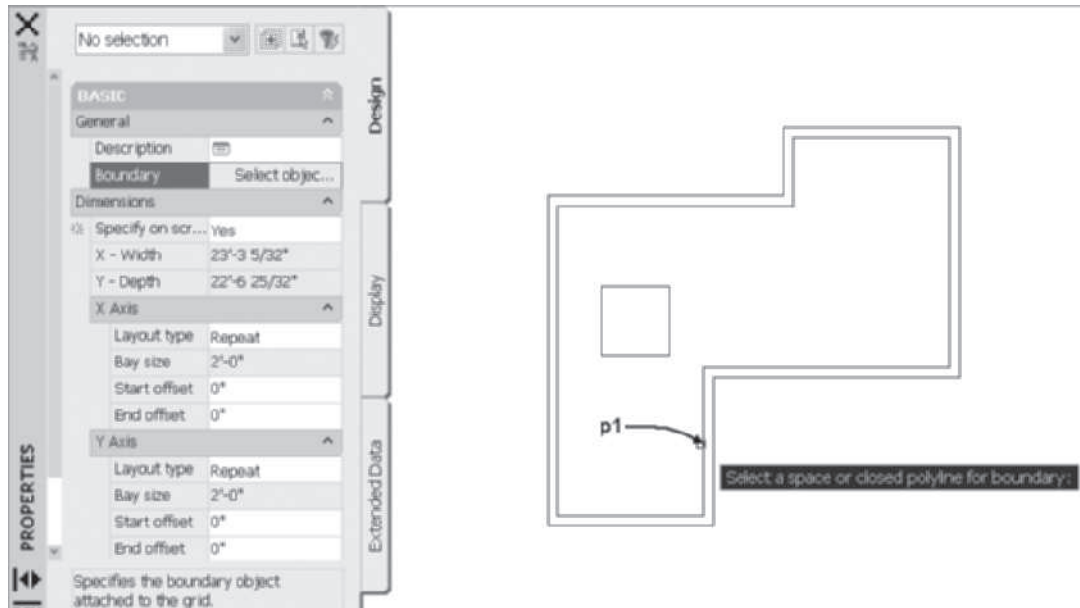

FIGURE 13.57 Selecting the AEC Space boundary for the ceiling grid
6. Edit the **Properties** palette as follows: Specify on screen = **No**; X Axis: Layout type = **Repeat**, Bay size = **2'-0" [600]**, Start offset = **0**, End offset = **0**; Y Axis: Layout type = **Repeat**, Bay size = **2'-0" [600]**, Start offset = **0**, End offset = **0**. To set the remainder of the ceiling grid dimensions, select Specify on screen = **Yes**. Choose **Select object** from the **Boundary** list and select the edge of the AEC Space for the room at **p1** as shown in Figure 13.57.